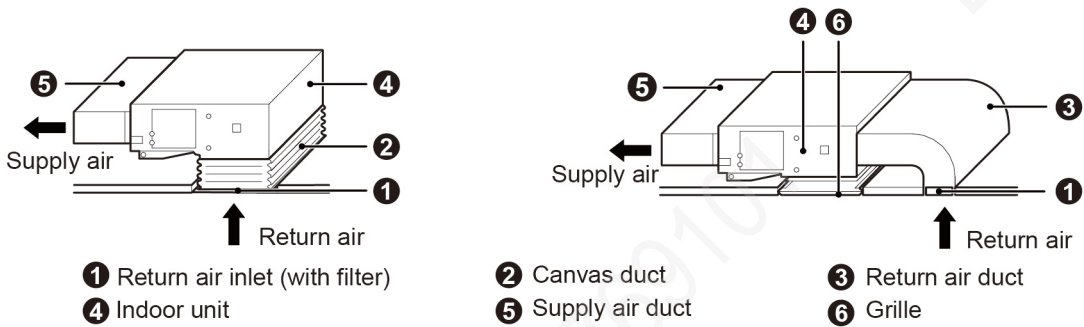

Fig 4.23
- (2) If air return from the bottom is needed, switch the positions of square flange and air-return cover.
- (3) Use a clincher to connect air-return duct to the air-return opening of indoor unit. The other end of air-return duct connects with the air-return louver. In order to adjust the height conveniently, you can make a folded canvas duct and have it strengthened by 8# iron wire.
- (4) Air return from the bottom will produce more noise than air return from the back. So we suggest you to add a noise damper and static pressure case to lower noise if you choose air return from the bottom.
- (5) Select the appropriate installation way based on actual construction and maintenance needs, as shown in Fig 4.23